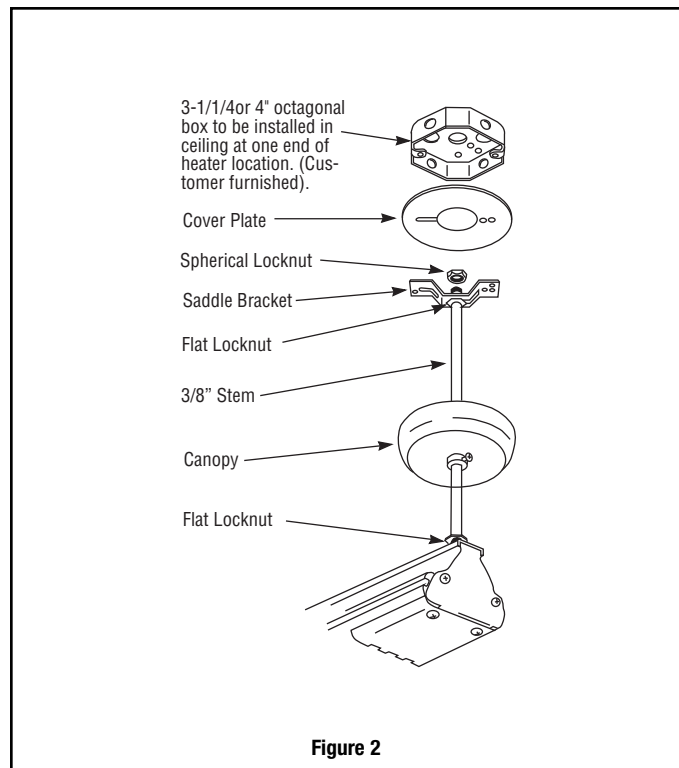

Figure 2
- Refer to Figure 2. Assemble one flat lock nut onto one end of each support tube or conduit and thread them into the tapped openings in top of heater. One of these support tubes contains three insulated wire leads. Handle with care to avoid damage to lead insulation.
- Assemble remaining locknuts onto ends of support conduits. Flat nut goes on first; spherical nut last with its convex side facing heater. See Figure 2. There should be full thread engagement at the top spherical nut. Allow about 1/2" spacing between nuts to facilitate hanging to brackets. Set the assembly aside.